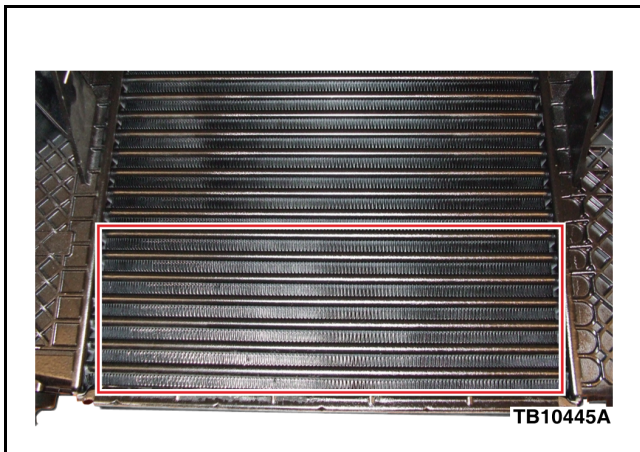

Figure 4 - Article 13-8-1
- a. Make sure that the lower forward facing bottom seven (7) tubes and eight (8) rows of fins on the Charge Air Cooler are dry and free of dirt and debris. (Figure 4)